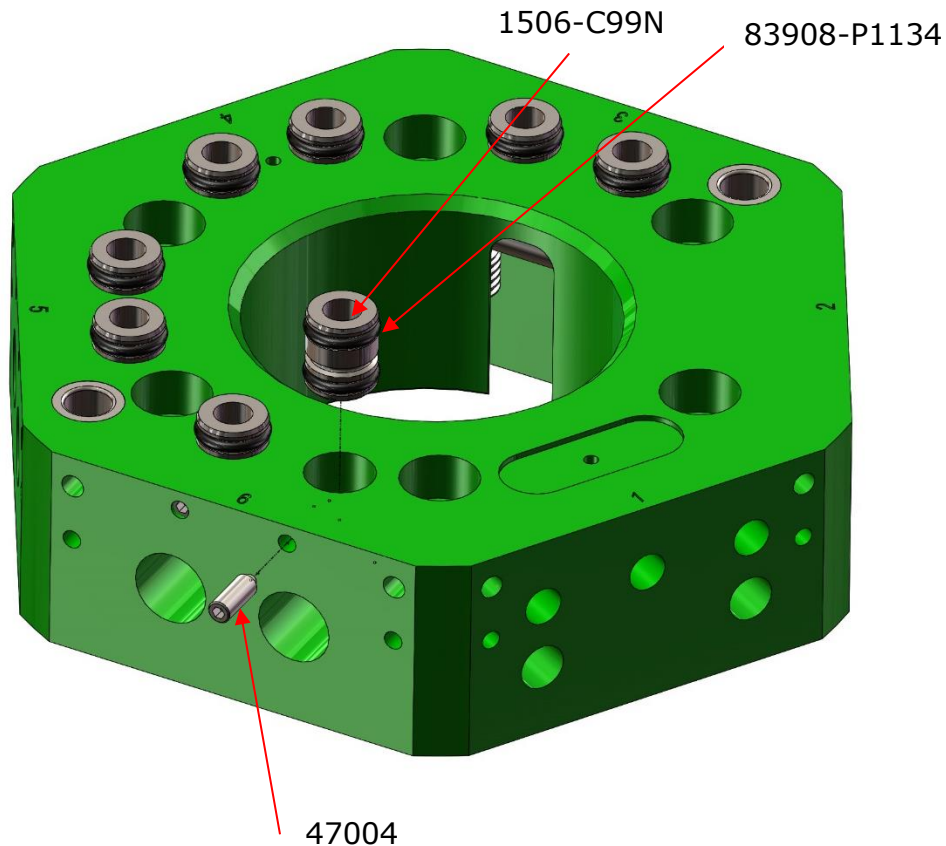

Figure 10.2.2-1. Air Valve Fitting Replacement
2. Replace the (2) O-rings (83908-P1134), set screw and or valve fitting if necessary.
4. Push the valve fitting assembly (valve fitting and O-rings) into the valve fitting hole by hand until it bottoms out in the hole. Ensure the proper orientation of the valve fitting as shown in Figure 10.2.2-1.